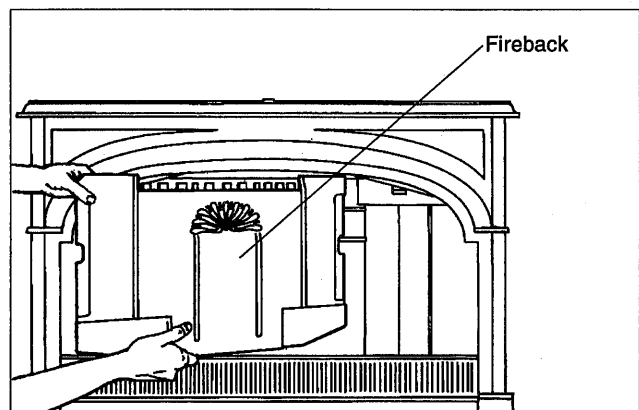

Fig. 51. Remove the lower fireback through the front door opening.
4. Swing the fireback forward and up to remove it from the stove, as shown in Fig. 51.